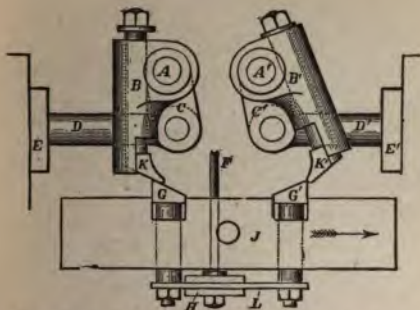

FIG. 26. CUT-OFF MECHANISM, GREENE ENGINE.
A. There are four flat valves; the steam valves are attached to the cut-off gear by stems *D*, *D'*, shown in the detailed view, Fig. 26, parallel to their seats, passing through stuffing boxes *E*, *E'*, and connected to rock shafts, and driven by a sliding bar *J*, actuated by an eccentric set to drive it parallel with the cylinder axis, and coincident with the piston. This bar bears a pair of tappets *G*, *G'*, adjusted vertically to engage drop toes *KK'* on rock shaft arms *BB'* on rock shafts *AA'* attached to the valve links inside the steam chest. The tappets were formerly held to their work by springs, and their position regulated by a Porter governor. They now have direct and rigid connection with the governor. The exhaust valves are grid-iron slides travelling across the cylinder line, and driven by a horizontal rock shaft extending forward to the eccentric on the main shaft.